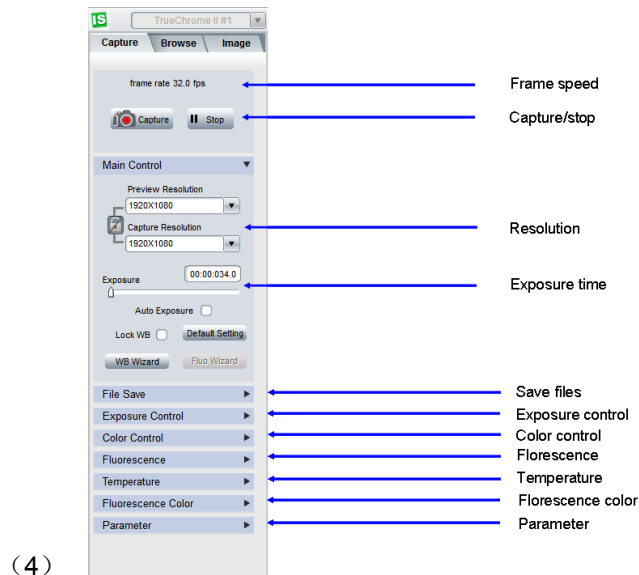

Fig.4-1. The left side of HD2 Advanced Imaging & Measurement software
- (1) Start the software. The parameter settings are shown on the left side of the software. See Fig.4-1.